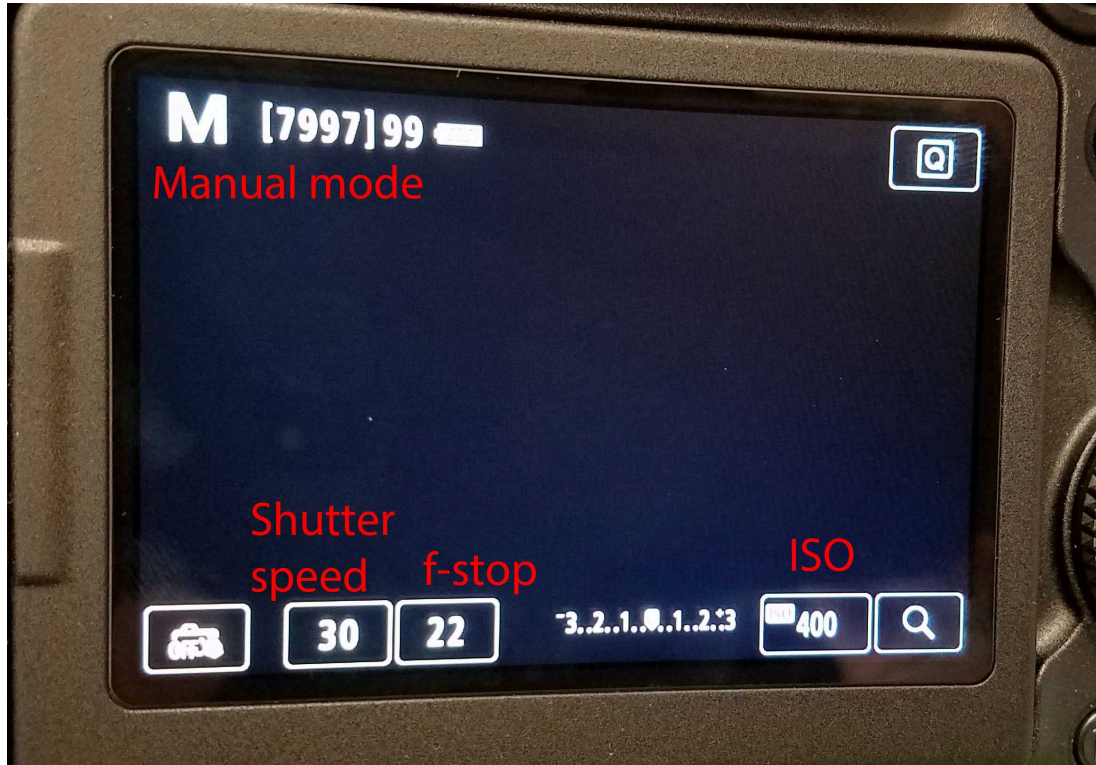

Figure 7. Canon EOS 6D MK II settings displayed on touchscreen. Photograph by Lucas Evart, U.S. Geological Survey, 2024
- 3.2 Once in manual mode, select the settings for shutter speed, aperture (f-stop), and ISO as shown below. The EOS 6D MK II features a touch screen. Any of these settings can be adjusted from the screen depicted in Figure 7. They can also be adjusted on the PC via the EOS Utility software.